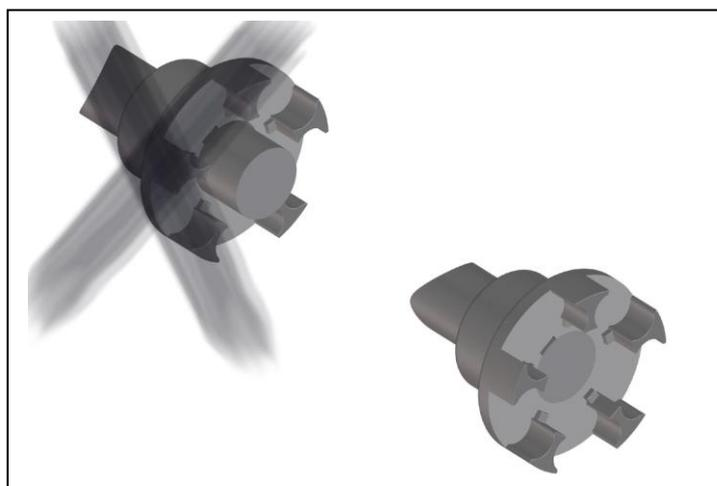

Fig. 4
- Mount the hubs in such a manner that the shaft end is flush with the inner bore opening (Fig. 4). Observe deviant agreements, which may exist!